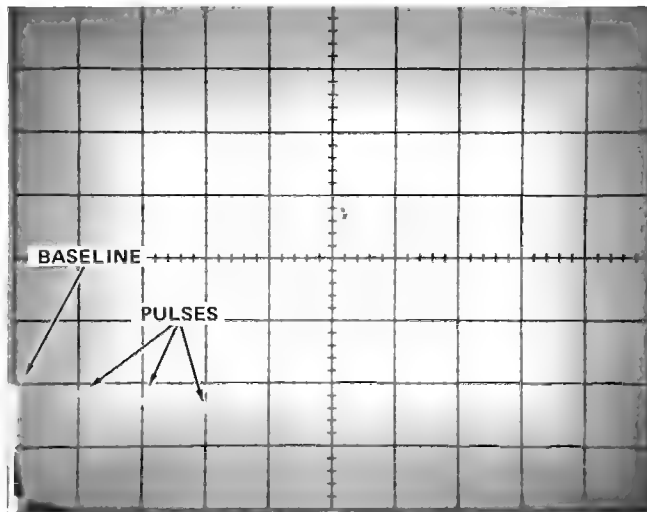

Fig. 5-8. Typical display illustrating step n.
n. CHECK—Note that the sweeps have been replaced with a short-duration pulse, except for the zero line. The pulse appears at what would have been the peaks of the sweep. See Fig. 5-8.